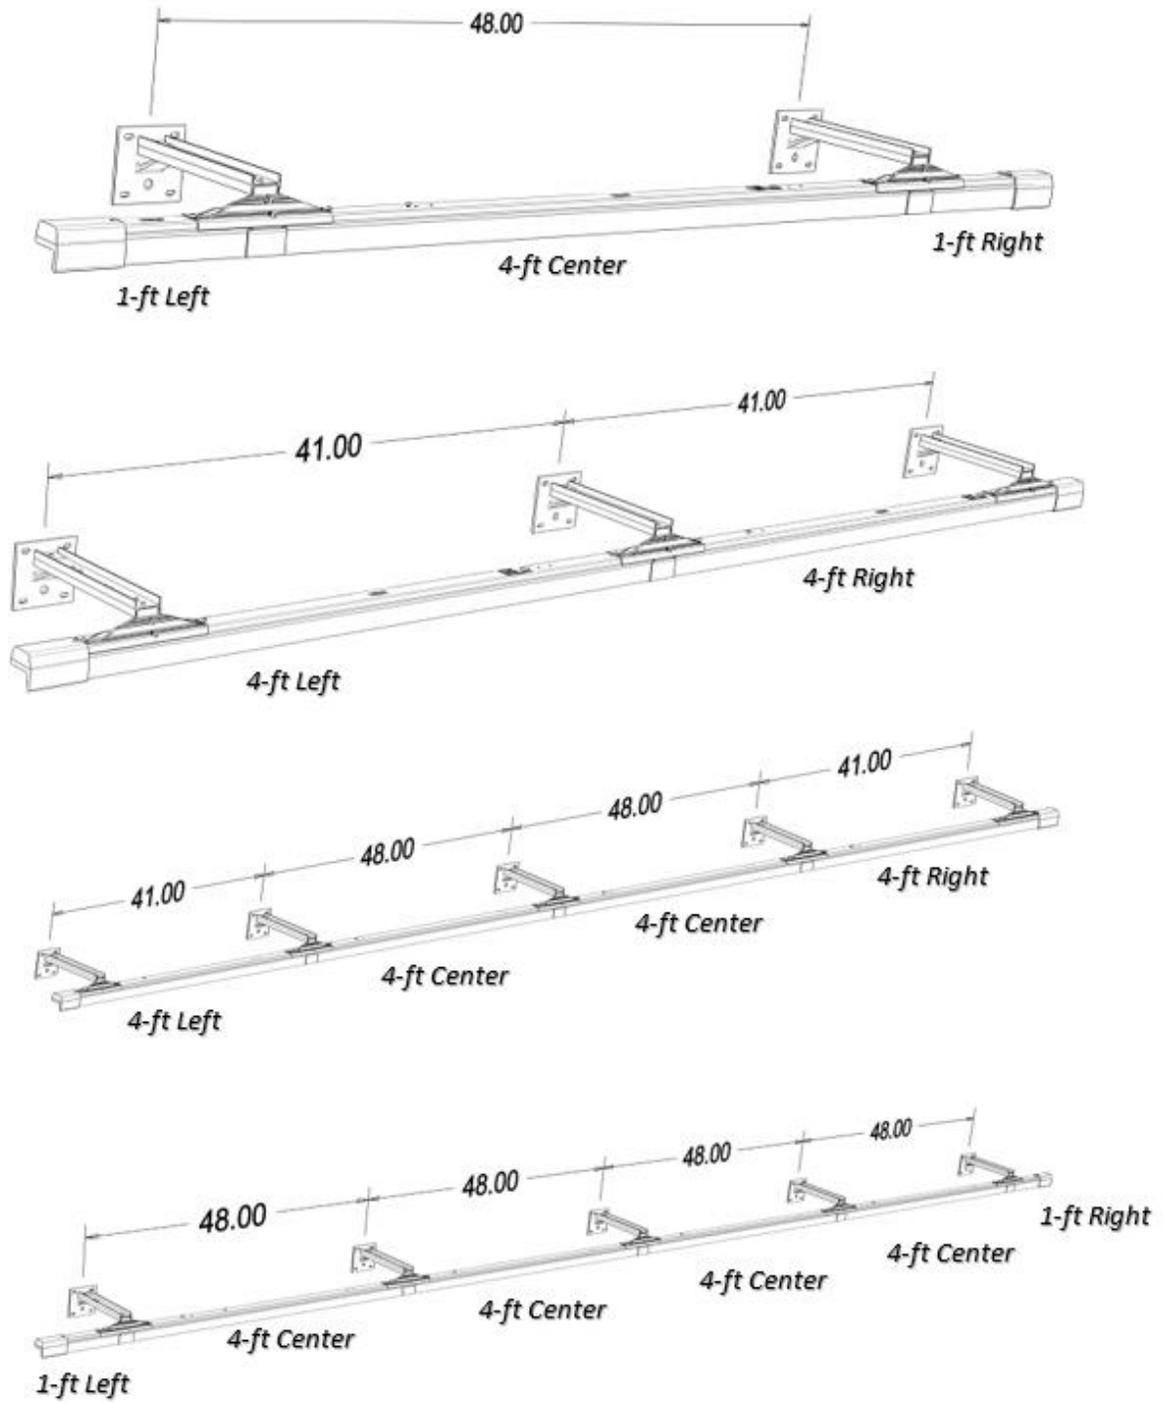

Figure 2: Left, Center and Right mount assemblies for various fixture lengths.
A fixture assembly consists of a Left Unit, Right Unit and several Center Units depending on the desired total fixture length. The fixture length can range from 4 to 50 ft in increments of 2-ft. Figure 2 shows the basic configuration of the fixture assembly for various length configurations.
2. Refer to Figure 2 for the spacing between adjacent Mount Arms. Note that the spacing between Mount Arms is not always the same (34", 41", or 48").